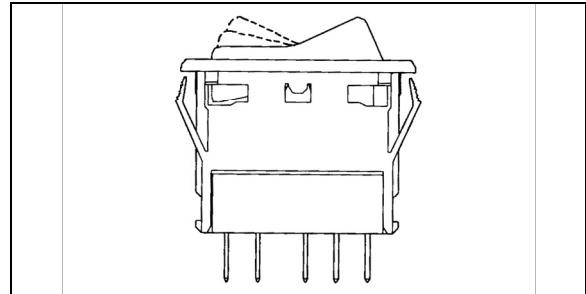

FIGURE 35: SWITCH
3. To install a new switch, reverse the procedure (Fig. 35).